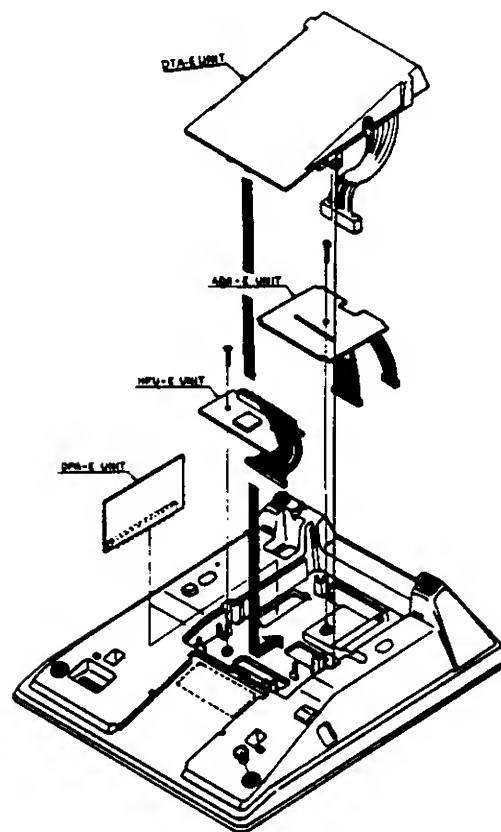

Figure 260-2 Optional Unit Installation
E. Locate the fourteen pin jack labeled HFU-E, as seen through the access view of the housing, insert the fourteen pin connector from the HFU-E unit, as shown in Figure 260-2.
E. Locate the thirteen pin connector labeled DPA-E, as seen through the access view of the key telephone housing, seat the DPA-E unit into this connector, using care, securely insert the unit into the notched cavity, refer to Figure 260-2.
E. Locate the eight pin jack labeled ADA, as seen through the access view of the Multiline Terminal housing, just below is a four pin connector and jack labeled HAND, refer to Figure 260-2.